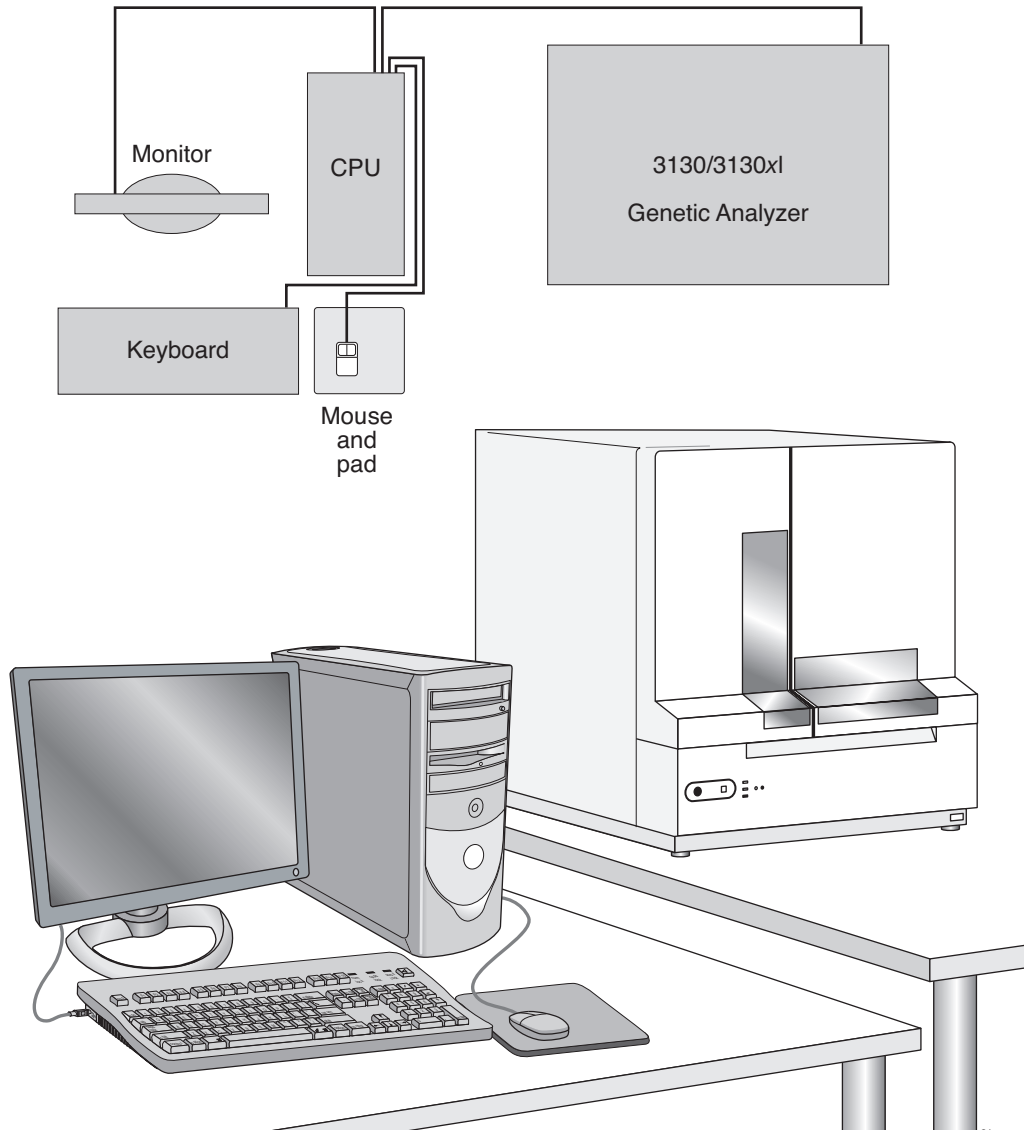

Figure 1-2 Layout requirements (*not to scale*)
**Layout Requirements** A typical layout and some basic layout considerations for a 3130/3130xl Genetic Analyzer are shown in Figure 1-2.